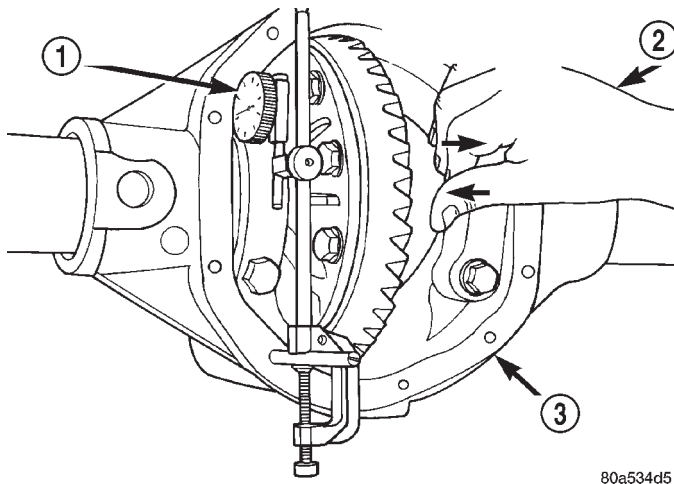

Fig. 100 Hold Differential Case and Read Dial Indicator
(12) Push and hold differential case to ring gear side of the axle housing (Fig. 100).
(13) Record dial indicator reading (Fig. 100).
(14) Add 0.008 in. (0.2 mm) to the zero end play total. This new total represents the thickness of